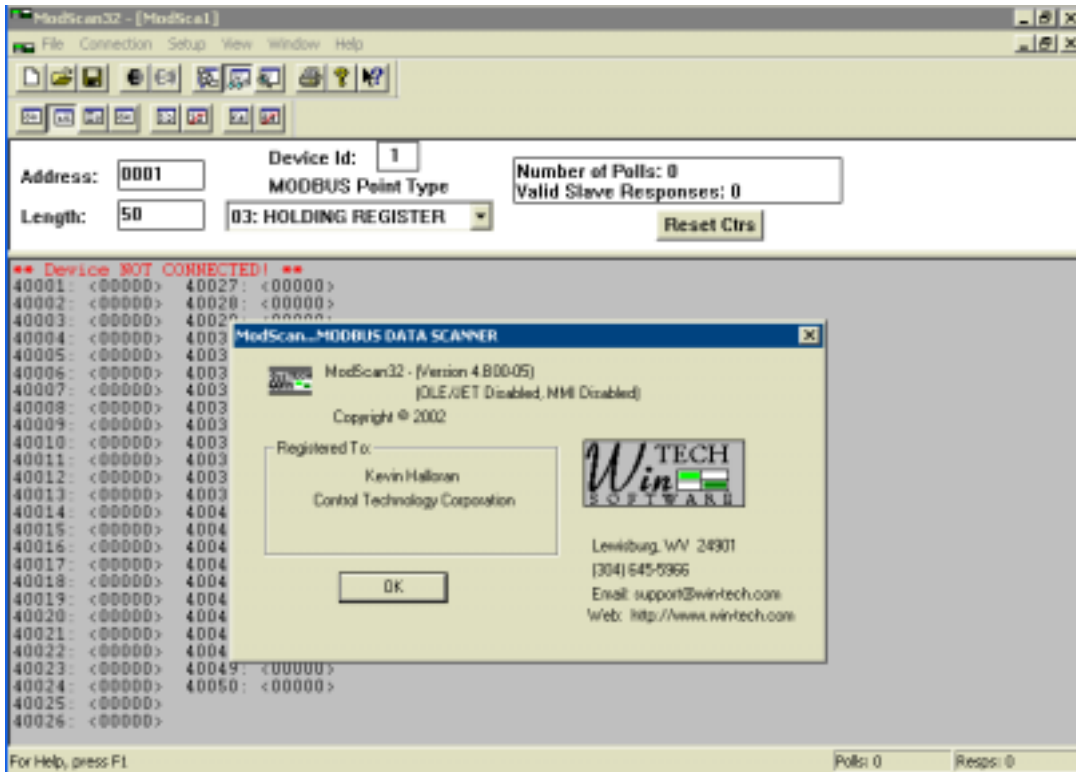

Figure 1.2: ModScan32 Master Scanning Program (only Holding Register supported)
3. Invoke ModScan32 and configure as per figure 1.2 and 1.3 for TCP operation.